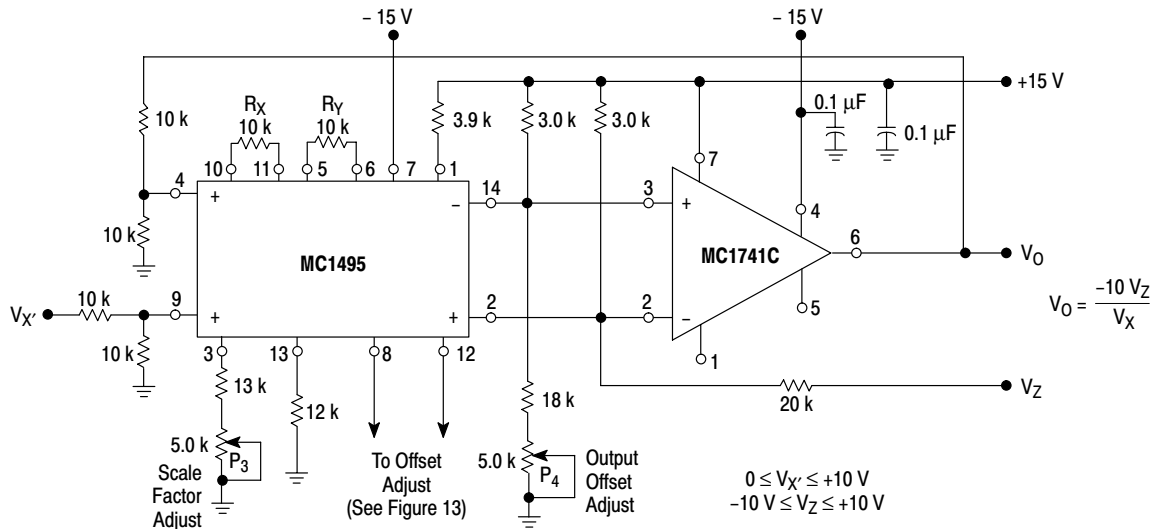

Figure 25. Divide Circuit
A circuit that performs the divide function is shown in Figure 25.
Two things should be emphasized concerning Figure 25.
2. Pin 2 and 14 of the multiplier have been interchanged in respect to the operational amplifiers input terminals. In this instance, Figure 25 differs from the circuit connection shown in Figure 21; necessitated to insure negative feedback around the loop.